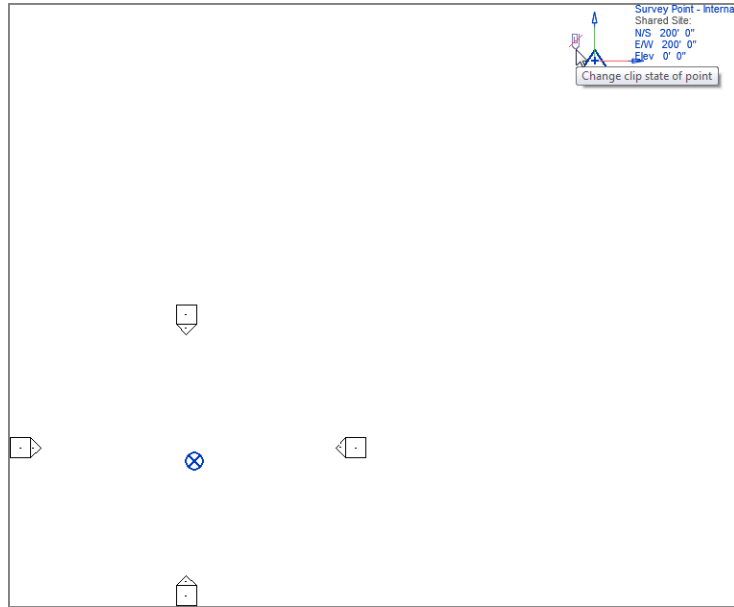

FIGURE 18.24: Altering the survey point
6. Deselect the blue paperclip, as shown in Figure 18.24.
9. Click the Survey Point - Internal link (see Figure 18.24).